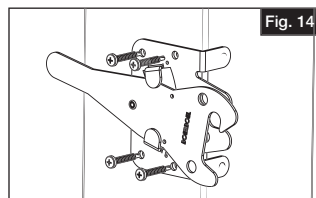

Fig. 14
- Secure latch to side of post with four 1" Phillips screws (Fig. 14).